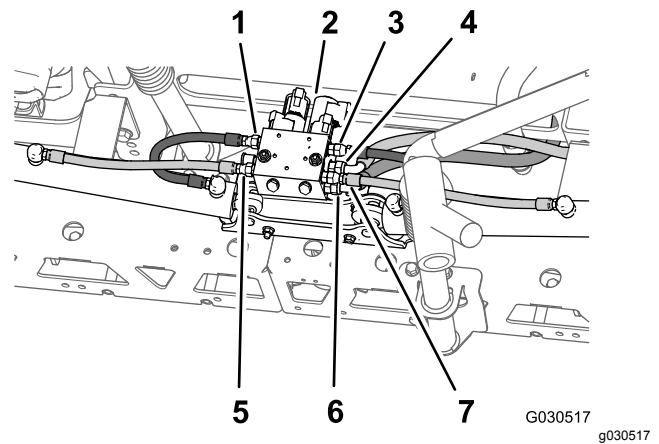

Figure 71
- At the back of the machine, remove the hydraulic hoses from between the boom-lift manifold and the hydraulic cylinder (Figure 71).